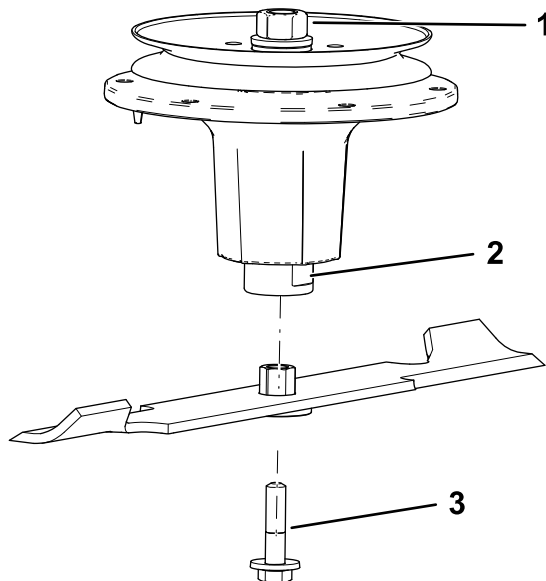

Figure 99
2. Install the bushing/blade assembly into the spindle shaft (Figure 99).